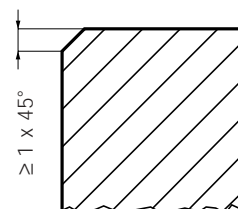

Fig. 2
- To avoid chipping the edges during turning, boring or milling, chamfered edges are advantageous, providing a smoother transition between the cutting tool and the plastics work. Refer to figure 2.